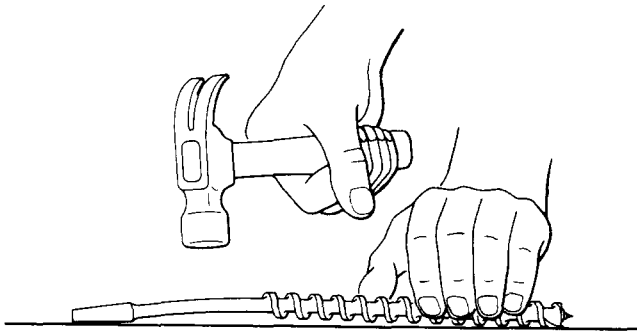

Fig. 9 — Straightening Bit With Hammer
5.07 To restraighten the bit, if it is slightly bent, roll the bit on a flat surface until the bend is located. Place the bit on a flat, solid wood surface and tap it on the high side with light blows of a hammer or a smooth faced wooden mallet until the bit is straight. See Fig. 9.